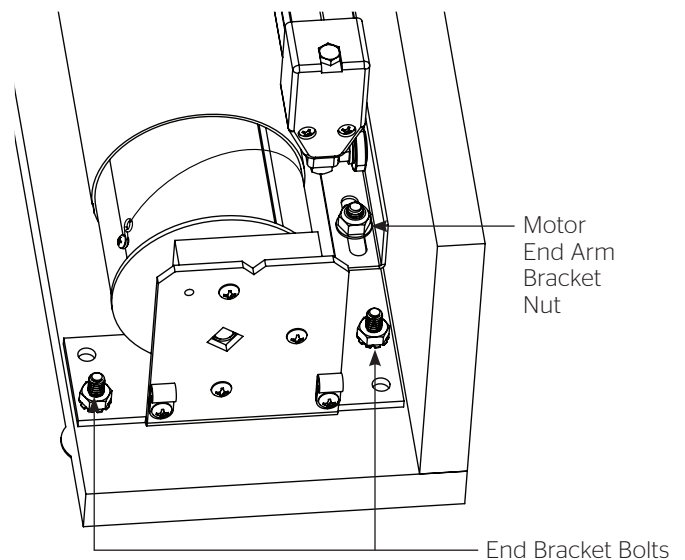

Figure 13
7. On the ViewShare screen and roller assembly, loosen (but do not remove) the nut on the motor end arm bracket (Figure 13).
8. Remove the two end bracket bolts securing the motor end bracket to the shipping board. Slide the bracket away from the end while supporting the roller (Figure 13).
14. Align the motor end bracket using the mounting holes as a guide and tighten the motor end arm bracket nut (Figure 13).